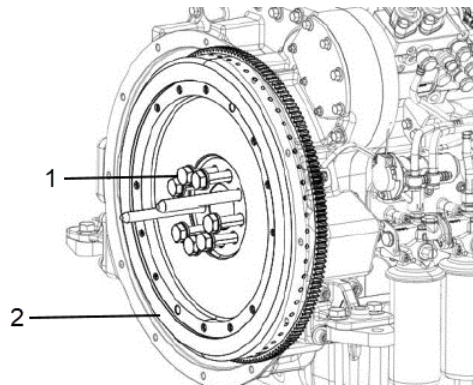

Figure 113.
11. Apply a film of oil to the threads and under the head of the flywheel fixing bolts (Figure 113, Item 1).
12. Using suitable handling, install the flywheel (Figure 113, Item 2) on the crankshaft.